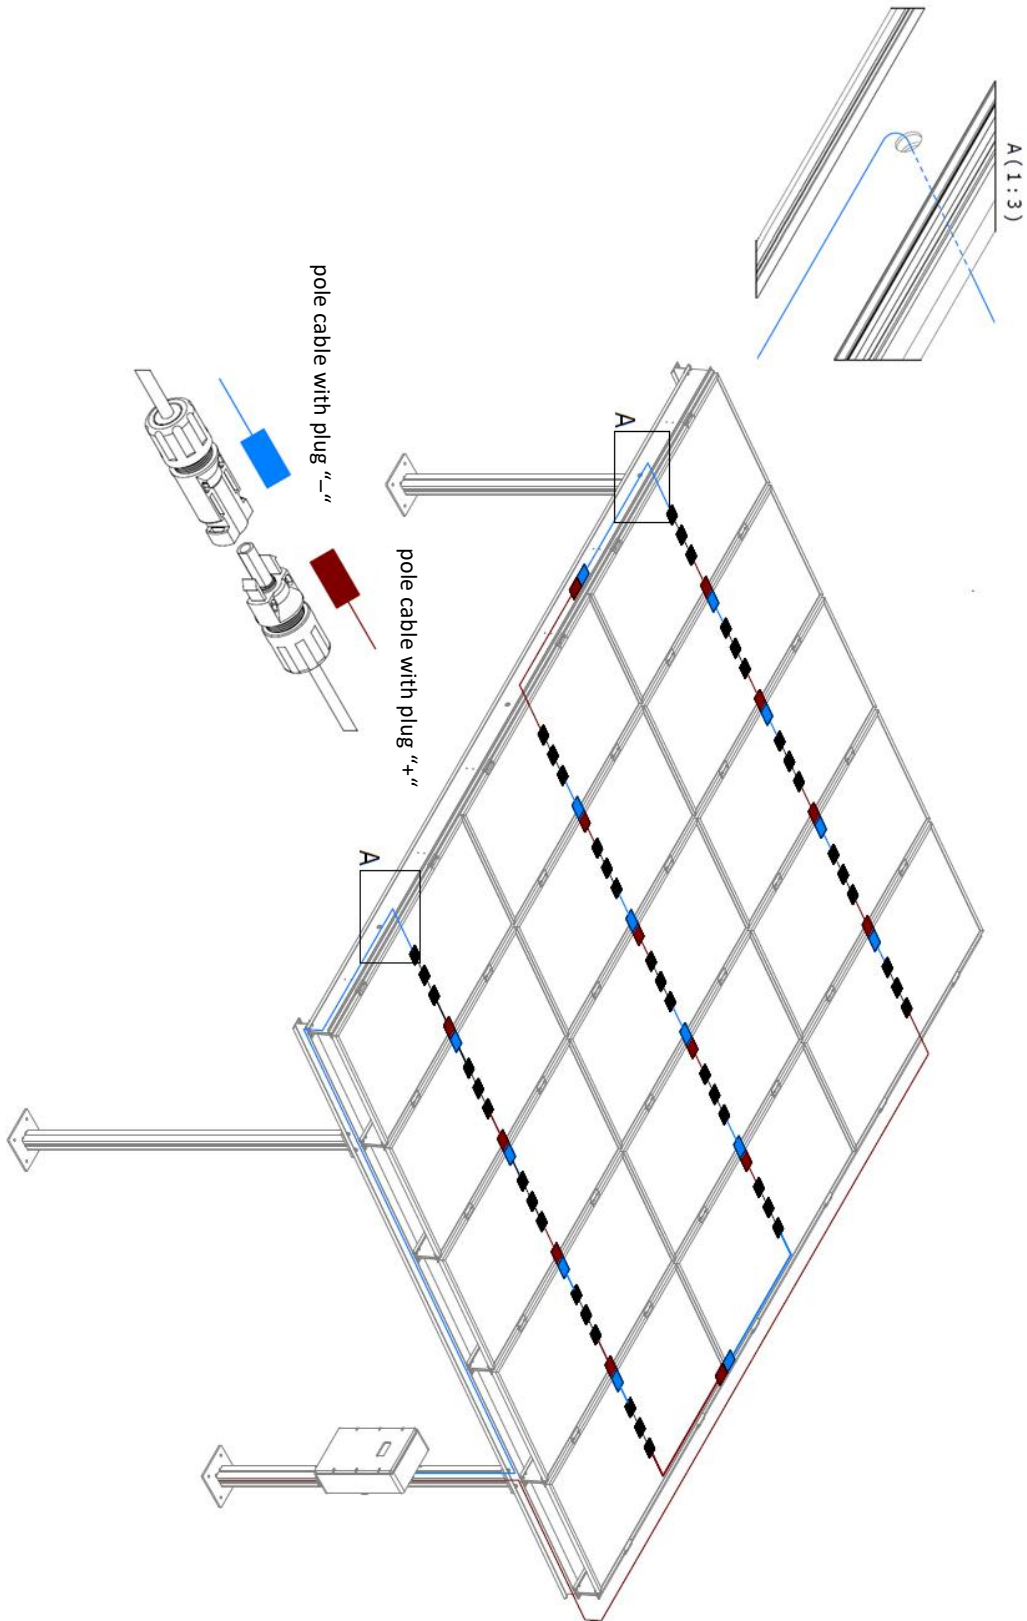

Figure 20. Wiring diagram - cable route
- When installing, take into account the cable routing through the holes in the purlin! (see Figure 20).